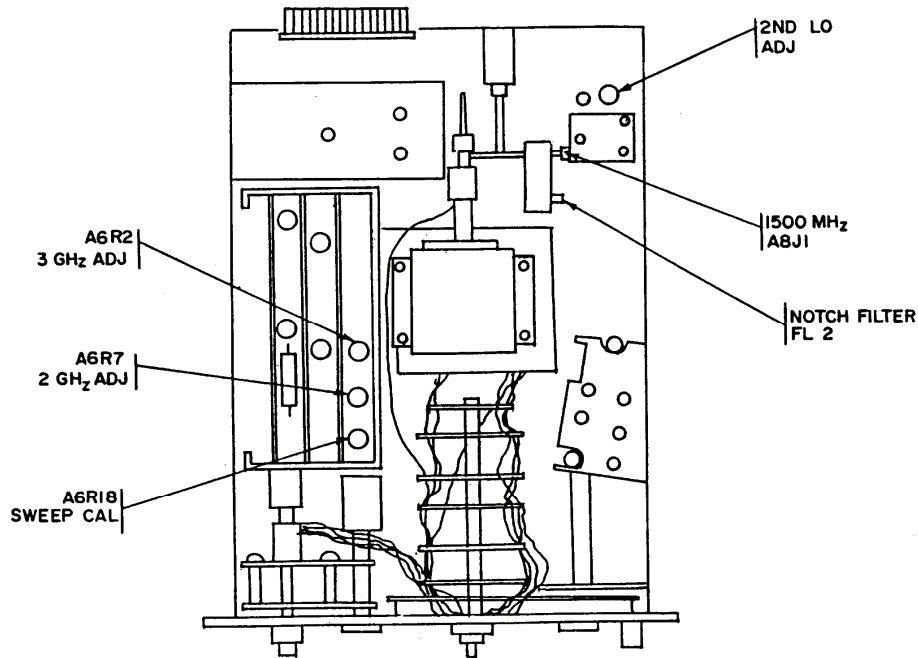

Figure 11. Test instrument - adjustment locations.
(1) Connect frequency counter to 1500 MHz A8J1 (fig. 11), using cable (Hewlett-Packard, Model 115926001, part of service kit). **NOTCH FILTER FL2** assembly (fig. 11) must be disconnected and removed for this connection.
(2) Adjust 2ND LO ADJ (fig. 11) as necessary to obtain frequency counter indication between 1499.9 and 1500.1 MHz (R).
(3) Disconnect frequency counter and reinstall **NOTCH FILTER FL2** assembly removed in (1) above.
(4) Set **BANDWIDTH** switch to **100 kHz** and **SCAN WIDTH PER DIVISION** switch to **20 MHz**.
(5) Set IF plug-in **SCAN TRIGGER** switch to **LINE**.
(6) Adjust **FREQUENCY** control to **0 MHz**.
(7) Adjust A6R2 3 GHz ADJ (fig. 11) to place local oscillator feed-through signal at center graticule line on display (R).
(8) Adjust **FREQUENCY** control for 1000.0 MHz.
(9) Adjust A6R7 2 GHz ADJ (fig. 11) to place 1000 MHz signal pip at center graticule line on display (R).
(10) Set **SCAN WIDTH PER DIVISION** switch to **2 MHz** and repeat (6) through (9) above until displayed pip appears within  $\pm 1$  division of center graticule line with **FREQUENCY** control settings of 0 and 1000 MHz.
(11) Set **BANDWIDTH** switch to **300 kHz** and **SCAN WIDTH PER DIVISION** switch to **100 MHz**.
(12) Adjust **FREQUENCY** and **FREQUENCY FINE TUNE** controls to place local oscillator feed-through signal at left graticule line.
(13) Adjust signal generator for output frequencies of 200, 400, 600, 800, and 1000 MHz, respectively. Note position of signal pips on display.
(14) Adjust A6R18 SWEEP CAL (fig. 11) to position pips to coincide with their respective graticule lines (R).
(15) Repeat paragraphs **26 a** through **27 a** above.